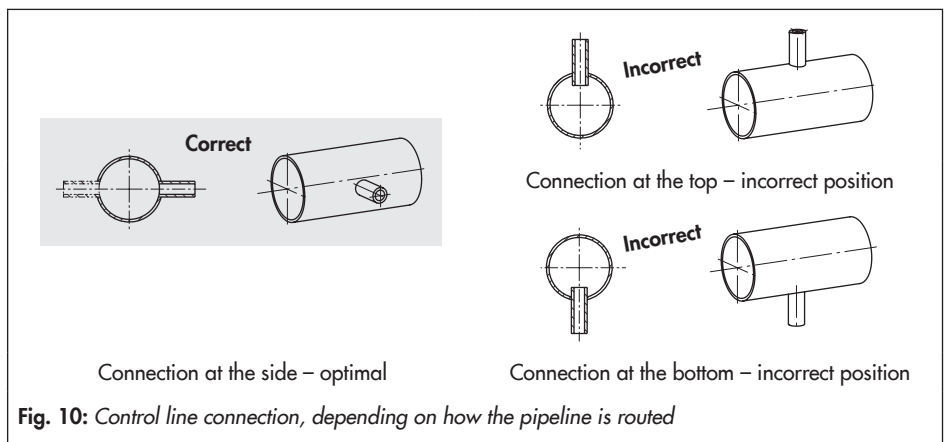

Fig. 10: Control line connection, depending on how the pipeline is routed
- Connect external control lines at the side of the main pipe (see Fig. 10)